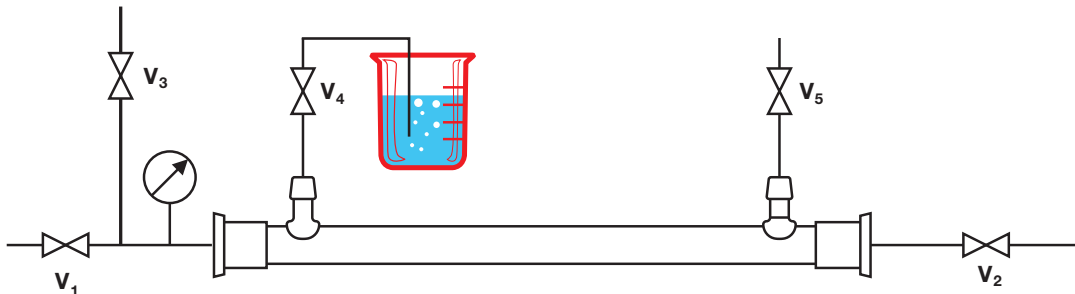

Figure 8: Bubble Point Test Schematic.
1. A system setup for performing the bubble point test is shown below in Figure 8.